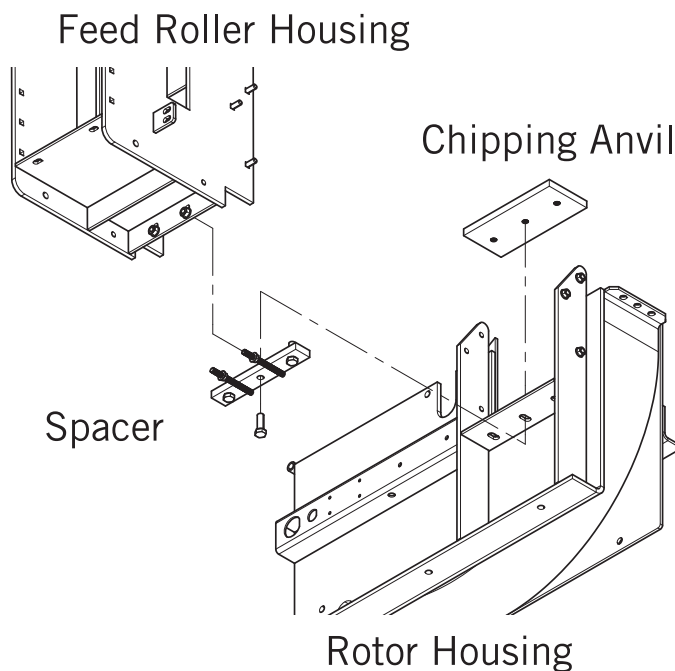

Figure 5.9.1
1. Loosen the two anvil bolts located underneath the feed roller housing (see Figure 5.9.1).